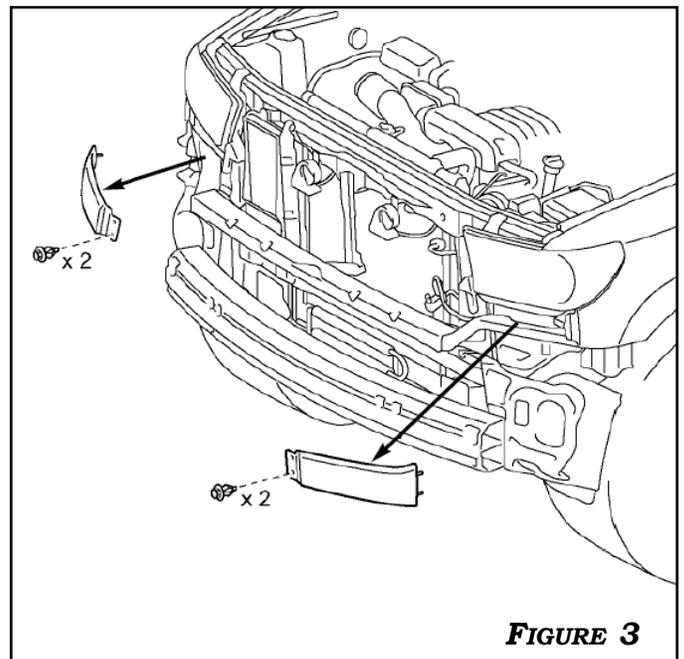

FIGURE 3
4. REMOVE THE LOWER LEFT AND RIGHT HEADLIGHT TRIM BY DISENGAGING THE TWO CLIPS AS SHOWN IN **FIGURE 3**.